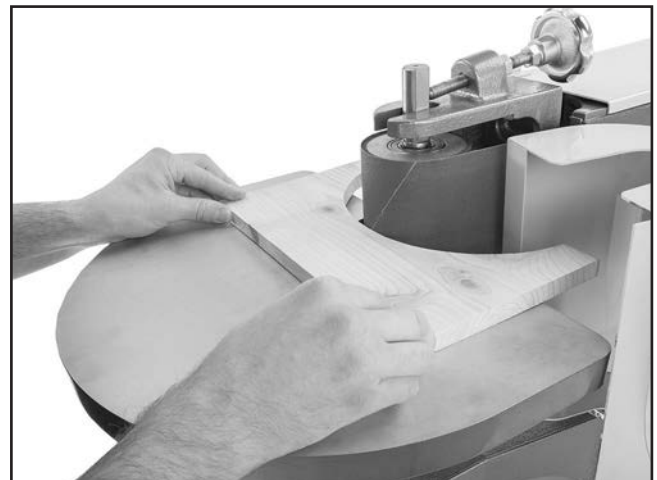

Figure 56. Typical contour sanding operation.
4. While securely holding workpiece, slowly feed workpiece into moving sanding belt with light, even pressure. Maintain control of workpiece, as shown in **Figure 56**. DO NOT force workpiece against sanding belt.